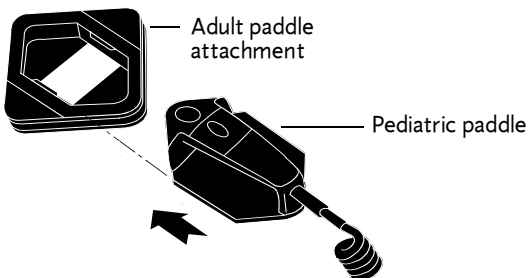

Figure 5-10 Replacing a Pediatric Paddle
- 3 Slide the paddle handle forward until you hear a click. (Refer to Figure 5-10.)